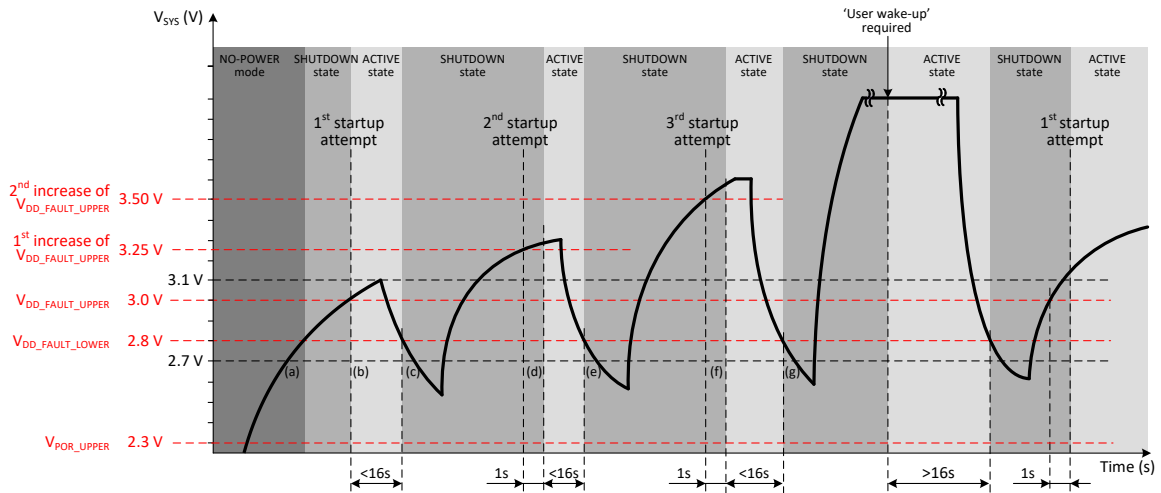

Figure 14: VDD\_START Faults
The DA9063 `VDD_START` feature prevents endless looping of false starts in a weakly-powered system. `VDD_START` limits the number of automatic restart attempts to three. With reference to Figure 14:
- Figure 14\(a\): The PMIC starts from NO-POWER mode.
- Figure 14\(b\): First startup attempt. The PMIC transitions to the ACTIVE state when  $V_{SYS}$  rises above  $V_{DD\_FAULT\_UPPER}$ .
- Figure 14\(c\): If, during the first startup attempt, the  $V_{SYS}$  supply drops below  $V_{DD\_FAULT\_LOWER}$  for more than 100 ms, the PMIC shuts down to the SHUTDOWN state.  $V_{DD\_FAULT\_UPPER}$  is increased automatically by 250 mV. However, the increased  $V_{DD\_FAULT\_UPPER}$  is limited to a maximum of 3.70 V.
- Figure 14\(d\): Second startup attempt. If  $V_{SYS}$  rises above the new  $V_{DD\_FAULT\_UPPER}$  threshold, then the PMIC will power-up to the ACTIVE state.
- Figure 14\(e\): If, during the second startup attempt, the  $V_{SYS}$  supply drops below  $V_{DD\_FAULT\_LOWER}$  for more than 100 ms, the PMIC shuts down to the SHUTDOWN state.  $V_{DD\_FAULT\_UPPER}$  is increased automatically by a further 250 mV (500 mV above its original setting). However, the increased  $V_{DD\_FAULT\_UPPER}$  is limited to a maximum of 3.70 V.
- Figure 14\(f\): Third startup attempt. If  $V_{SYS}$  rises above the new  $V_{DD\_FAULT\_UPPER}$  threshold, then the PMIC will power-up to the ACTIVE state.
- **Figure 14(g):** If, during the third startup attempt, the  $V_{SYS}$  supply drops below  $V_{DD\_FAULT\_LOWER}$  for more than 100 ms, the PMIC shuts down. From then on, `AUTO_BOOT` and wake-up from non-user events are temporarily disabled. 'User events' are defined in Table 40.